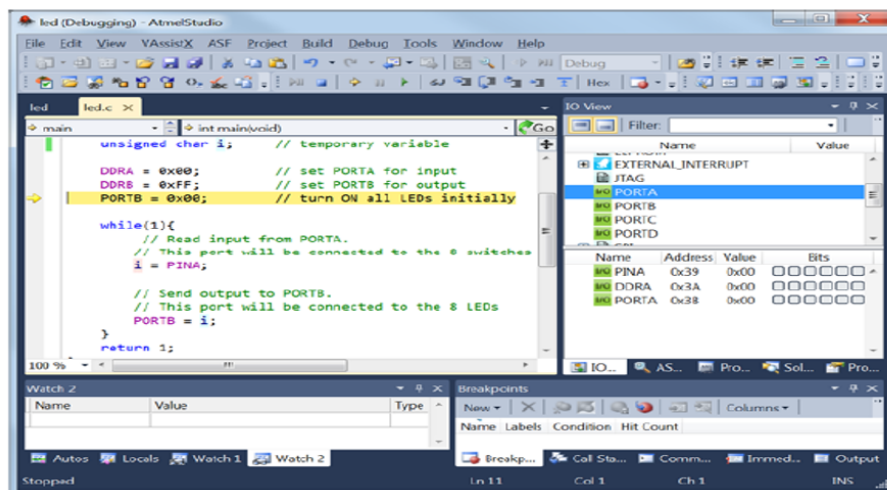

FIG 6. Debugging —The yellow arrow indicates the C instruction to be executed next
- A yellow arrow (Figure 6) will appear in the code window; it indicates the C instruction to be executed next.